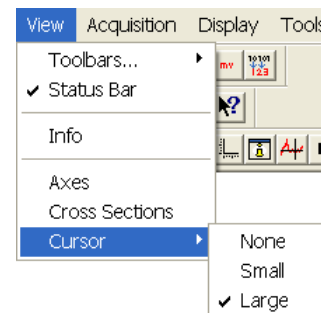

Figure 68. Selecting the Large Cursor
4. Click on the  (**Autoscale**) button at the bottom of the image window. Then select the large cursor by clicking on **Cursor** on the **View** menu and then on **Large** as shown in Figure 68.